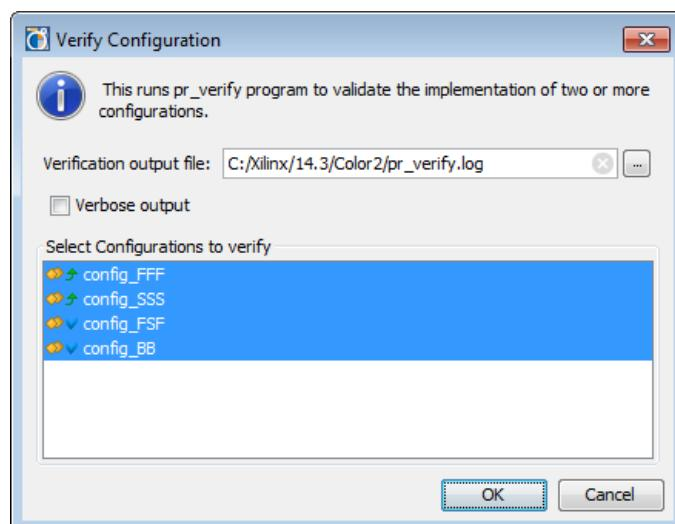

Figure 4-39: Selecting Configurations to Verify
2. The dialog box, shown in Figure 4-39, prompts for two or more Configurations, and you define the output file.